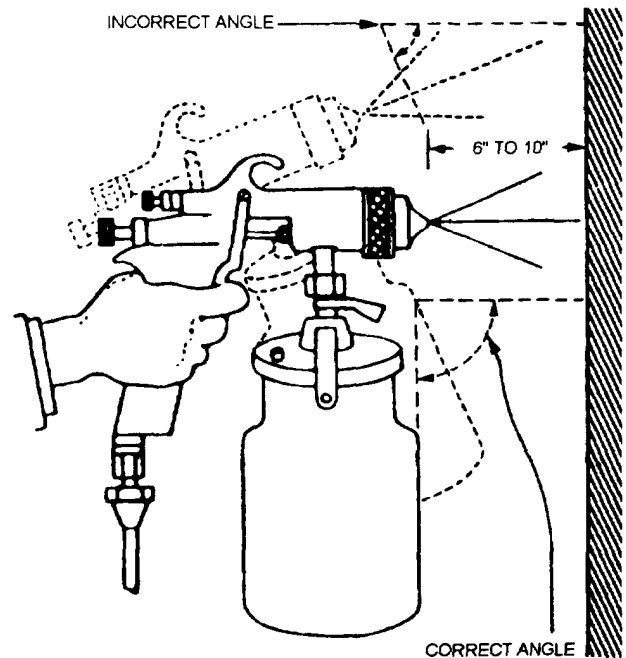

Figure 1-23.—Holding the spray gun perpendicular to the surface.
- For the paint to properly spray, always keep the gun perpendicular to and at the same distance from the surface being painted. Start the stroke before squeezing the trigger, and release the trigger before completing the stroke. If you do not hold the gun perpendicular or if you hold it too far away from the surface being painted, part of the paint spray will evaporate and will strike the surface in a nearly dry state. This condition is called *dusting*. If you fail to start the stroke before squeezing the trigger or if you fail to release the trigger before ending the stroke, the paint will build up at the end of the stroke and will run or sag. If you arch the stroke, you will not be able to deposit the paint in a uniform coat. See figures 1-23 and 1-24.